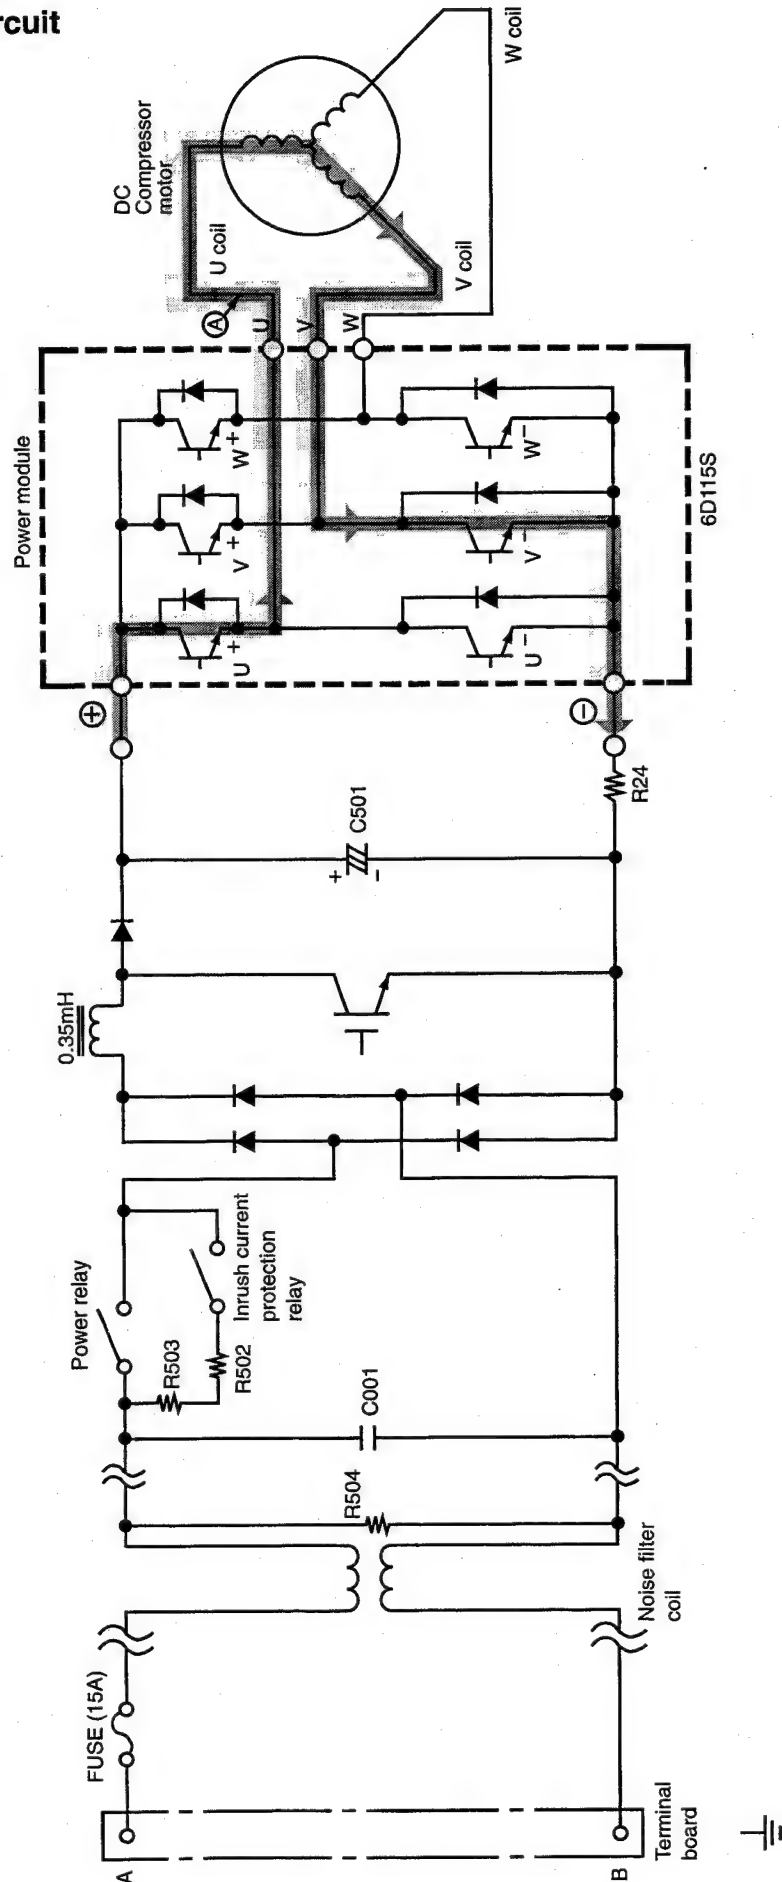
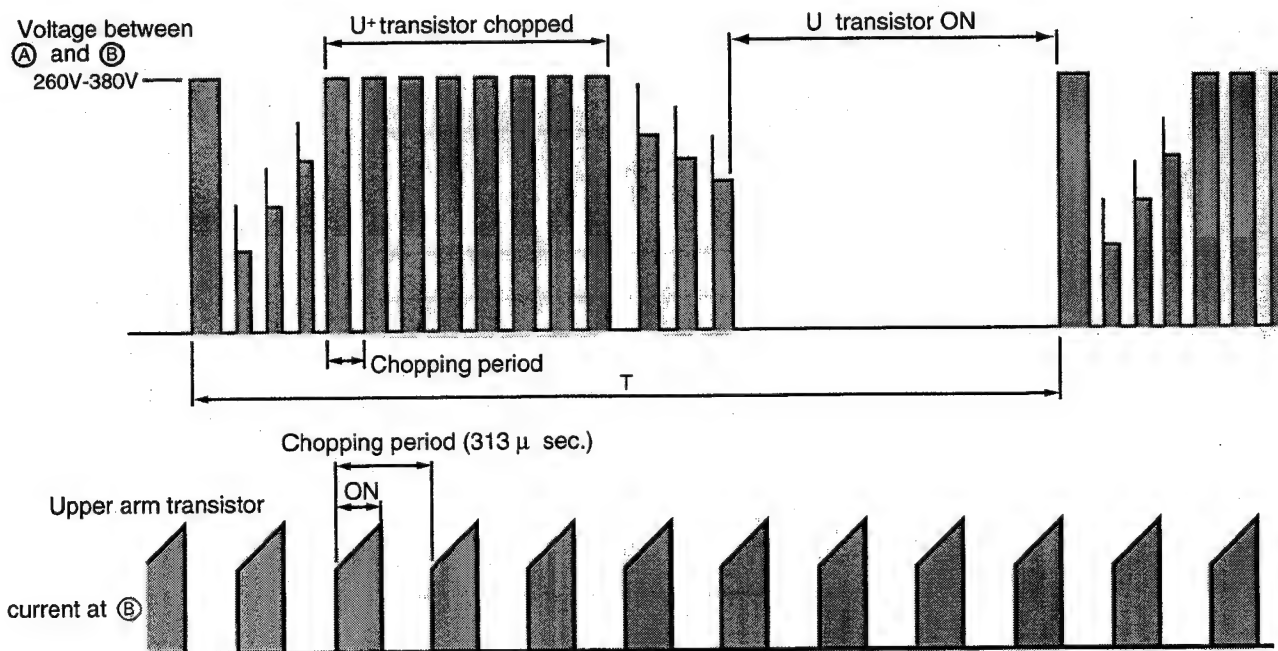

Fig. 3-1 Power module circuit ( $U^+$  is ON,  $V^-$  is ON)
Fig. 3-3 Voltage waveform at each point
- Fig. 3-1 shows the power module and its peripheral circuit.
- Fig. 3-3 shows voltage waveform at each point shown in Figs. 3-1 and 3-4.
- When power is supplied  $U^+ \rightarrow U^-$ , because of that  $U^+$  is chopped, current flows as shown below; (B)
(1) When  $U^+$  transistor is ON:  $U^+$  transistor  $\rightarrow$  U coil  $\rightarrow$  V coil  $\rightarrow$   $V^-$  transistor  $\rightarrow$  DC current detection resistor  $\rightarrow$  Point (B) (Fig. 3-1)
- Since current flows at point ② only when U+ transistor is ON, the current waveform at point ② becomes intermittent waveform as shown in Fig. 3-3. Since current at point ② is approximately proportional to the input current of the air conditioner, input current is controlled by using DC current (Id) detection resistor.